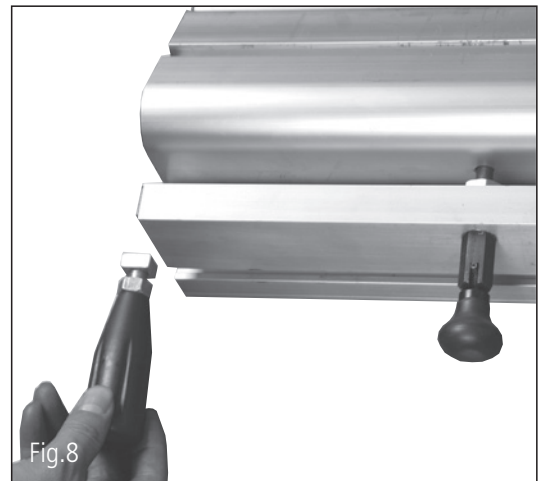

Fig.8
3. Assemble the operating knob and thread the square nut onto the start of the thread of the knob. Slide the square nut into the corresponding recess on the side of the sliding beam extrusion and locate towards the front of beam. Fully tighten the knob by rotating in a clockwise direction (Fig 8).